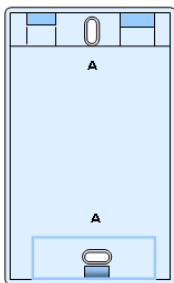

Figure 8: MD-W11BP Battery Pack
4. Wire the battery pack as shown in Figure 8.